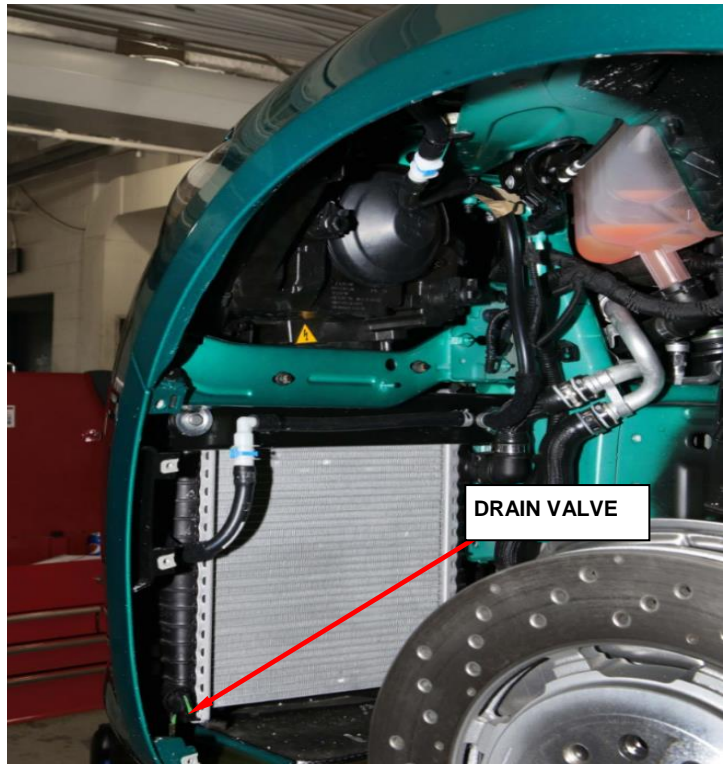

Figure 16 - Valve
6. Open the coolant drain valve and partially drain the cooling system until the right coolant reservoir is empty (Figure 16).